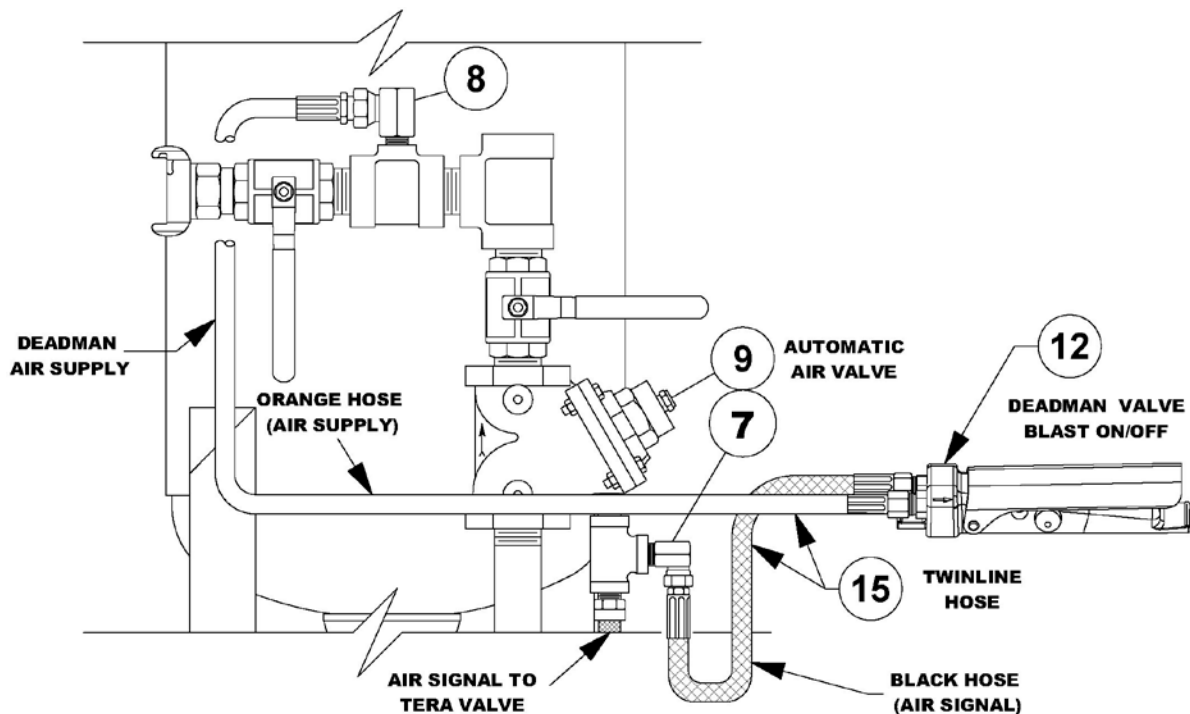

Figure 5.4 – Tera Valve™ Pneumatic Blast Control System
5.8.1. Pneumatic Deadman System: When the pneumatic deadman lever (#12) is pressed down, air supply from the orange hose of the twinline hose (#15) flows into the black hose. Air flows through the black hose to the signal ports of the auto air valve (#9) and Tera Valve (#14) causing both to open. When the deadman lever is released the air signal is cut off and the remaining air vents from the deadman and the quick exhaust valve (#35). The quick exhaust valve provides a quicker blast shutdown similar to the function of the control valve (#20) in an electric system. See Figure 5.4 and the drawing in Section 9.1(a). **Note:** The quick exhaust valve (#35) is not required for electric units or systems with abrasive cutoff.